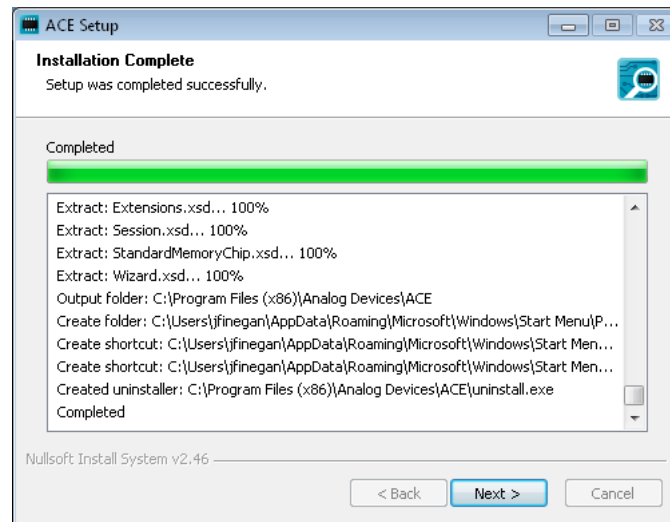

Figure 2.4: ACE Setup Wizard Step 4
**Step 4:** Installation is run, Figure 2.4. Click “Next” when the installation is complete.